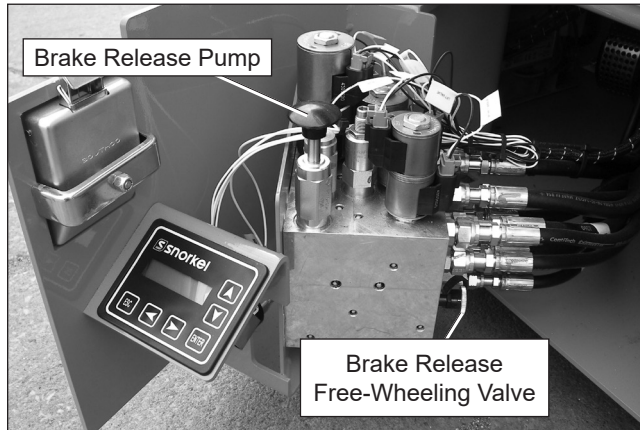

Figure 10.5 – Hydraulic Tray
1. Unlatch and swing out the control valve tray on the right side of the machine. The brake release/free-wheeling valve is located on the back of the hydraulic manifold (refer to Figure 10.5).